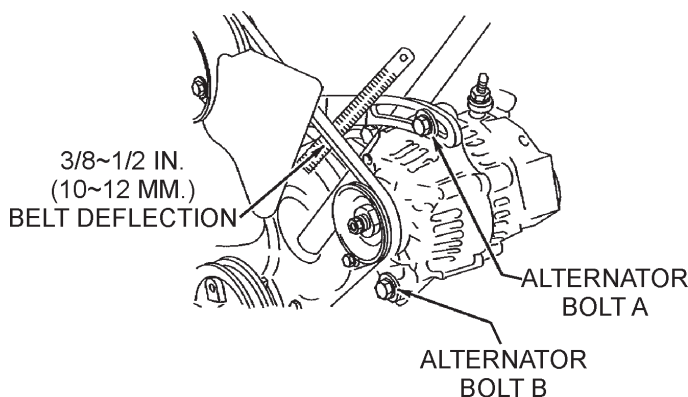

Figure 15. V-Belt Deflection
2. For long lasting V-belt life, check fan belt (Figure 15) for correct tension. There should be between 3/8~1/2-inch (10~12 mm) deflection at the center point of the V-belt between the fan and the alternator.